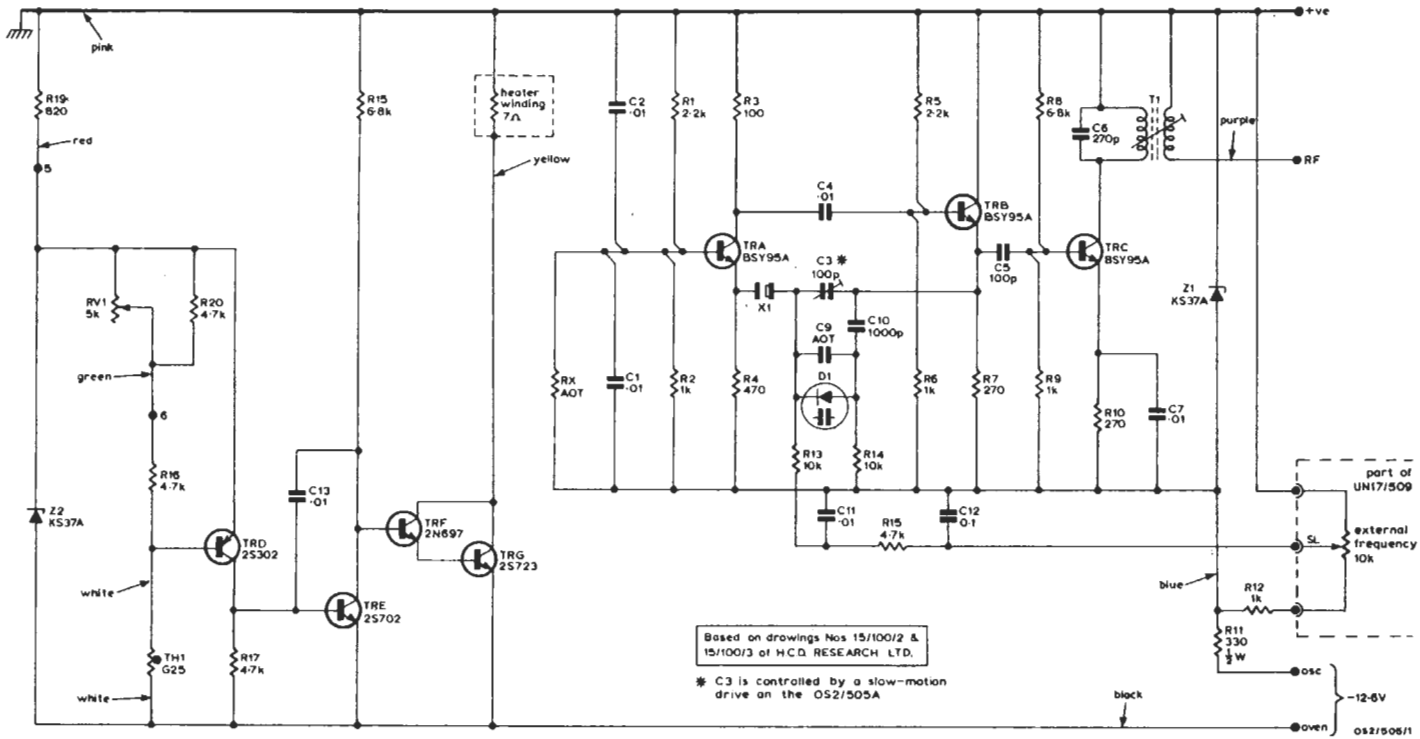

Fig. 1. Circuit of the OS2/505, OS2/505A, OS2/514
The circuit of these oscillators is given in Fig. 1. Transistors TRD to TRG form part of the oven heater circuit. The operating temperature of the oven is set by the manufacturers to 75°C (about 50°C in earlier units) and the oven temperature control RV1 should not be adjusted.
- (b) *Fine Frequency* control. A range of frequency of about 4 Hz is provided by adjusting a 10-kilohm potential divider. This control shown as an external control in Fig. 1, may either be manually operated or form part of an automatic tuning system (such as that using an Oscillator Correction Unit UN17/509).
See overleaf for Fig. 1